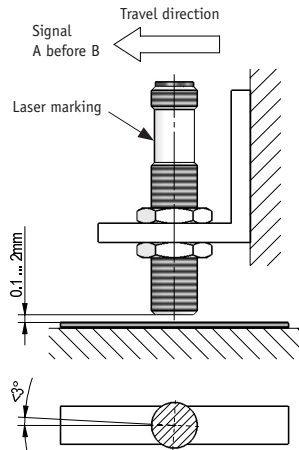

Fig. 6: Definition of the counting direction with magnetic strip and assemblage sensor/magnetic ring, gap measure, tolerances
- Observe the correct alignment with regard to the counting direction (fig. 6 and 7). This does not apply if the counting direction can be reversed in the electronic interpretation. (e.g. in SIKO's magnetic-strip displays)
- Tolerance for the gap between magnetic sensor and magnetic strip not observed over the total travel distance. Sensor touches strip (see fig. 6+7).
- Sensor's active side not mounted towards the magnetic strip (see fig. 6+7).
- Sensor has not been aligned according to fig. 6+7.